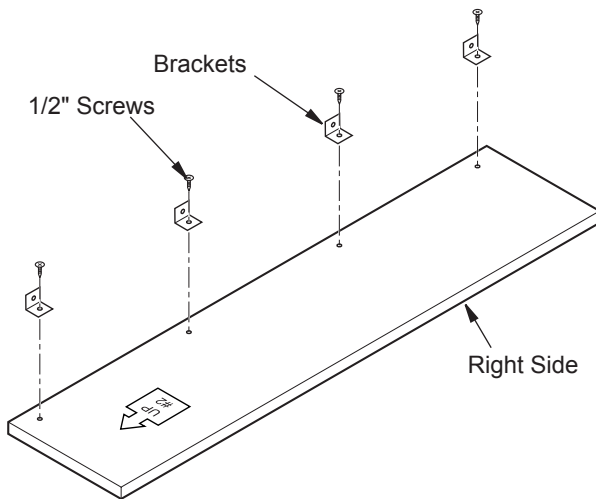
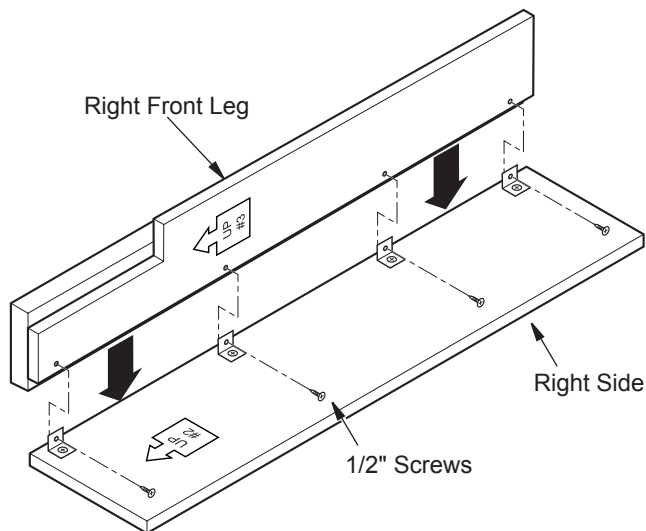

Figure 1 - Attaching Brackets to Side
Figure 2 - Attaching Front Leg
1. Lay right side panel (#2) face down on a soft surface to avoid marking finish. Attach four brackets with 1/2" screws to bottom of right front leg (#3) leaving screws slightly loose. Face brackets out (see Figure 1). Place right front leg (#3) over right side (#2) as shown in Figure 2, paying close attention to direction arrow pointing up on panels. Align threaded holes with brackets on side. Start four 1/2" screws through brackets. Align bottom of side and leg assembly so they are flush with each other. Hold these pieces securely in alignment while tightening (but not over tightening) screws.